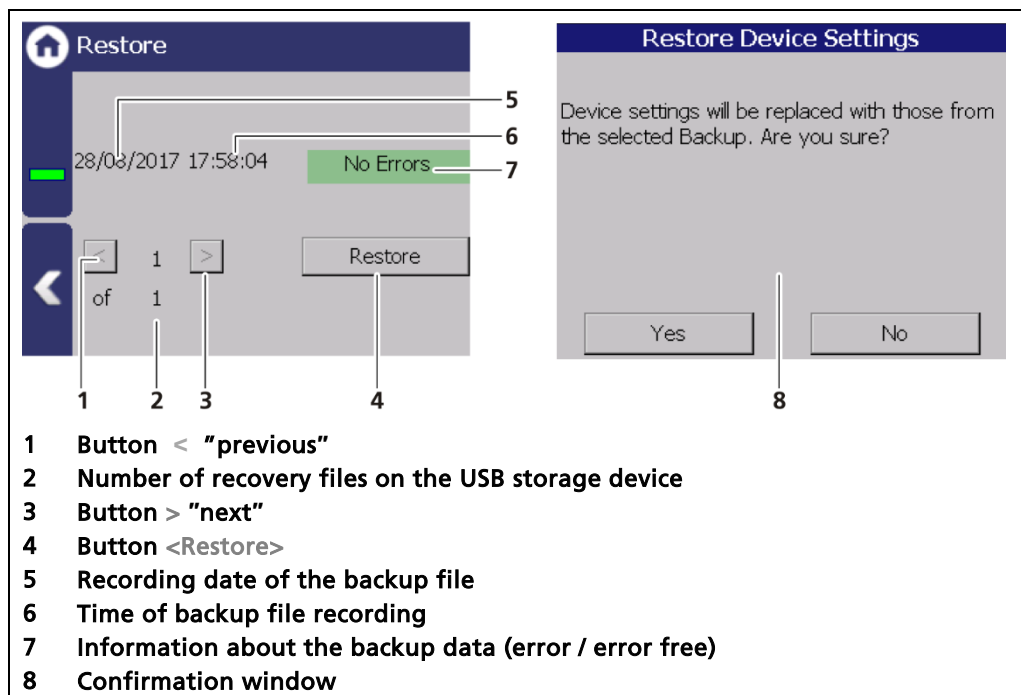

Fig. 134 Restore
2. Select the backup file with the buttons (Fig. 134, item 1, 3).
- ▶ The date and time of the backup is displayed (Fig. 134, item 5, 6). Only error-free (Fig. 134, item 7) backup files can be loaded.
3. Click on the button "Restore" (Fig. 134, item 4).
4. A confirmation message (Fig. 134, item 8) appears.